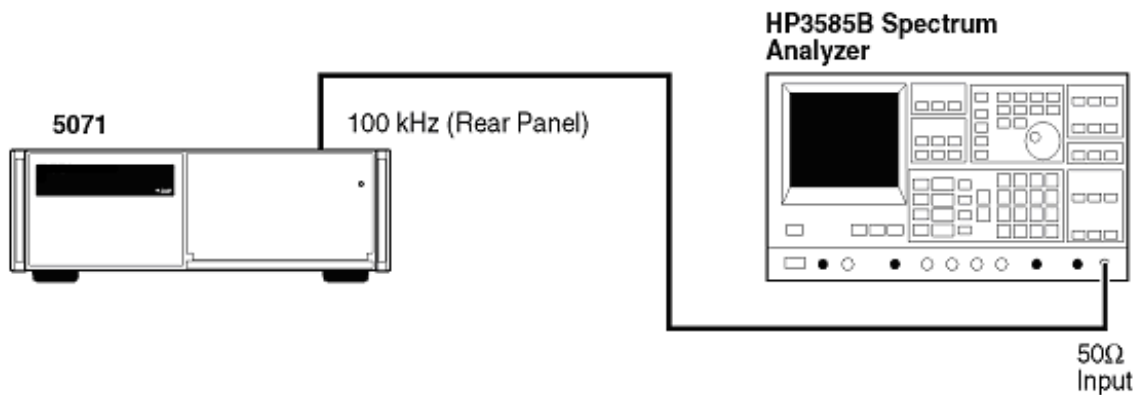

Figure A-6. 100 kHz Harmonic Distortion Test Setup
- 1 Connect the 5071A 100 kHz output to the 3585B Spectrum Analyzer as shown in Figure A-6. Set the 3585B for 50 Ω input impedance.